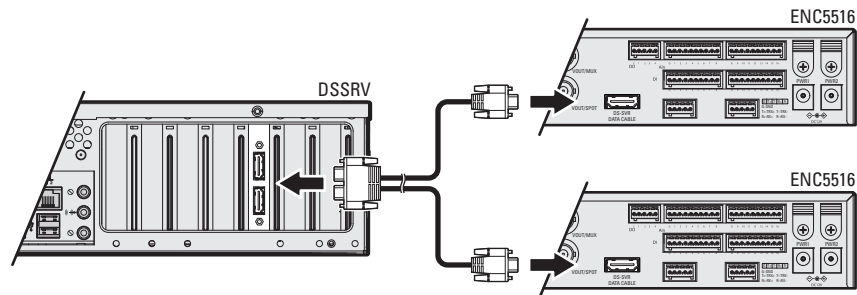

Figure 13. Connecting the DSSRV and Encoder(s)
2. Connect the dual connector end of the DSSRV data cable (not supplied) to the primary capture card on the DS NVR (refer to Figure 13).
NOTE: Refer to Figure 13 for the proper connection. Make sure the cords are aligned from the dual connector to each individual connector.
NOTE: Figure 13 on page 13 shows the proper connection for the primary capture card. The configuration is the same for the secondary capture card. Make sure the cords are aligned from the dual connector on the primary and secondary capture cards to each individual connector.